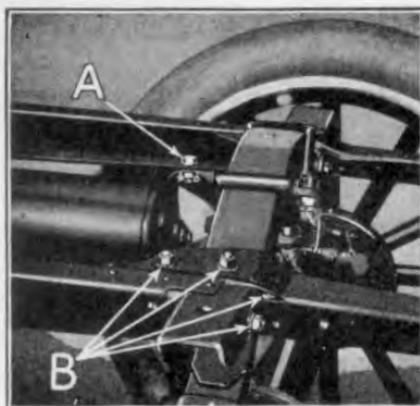

Fig. 51
- 54 **Remove exhaust pipe and muffler** by running off muffler head to frame bolt nut and withdrawing bolt (See "A" Fig. 51).